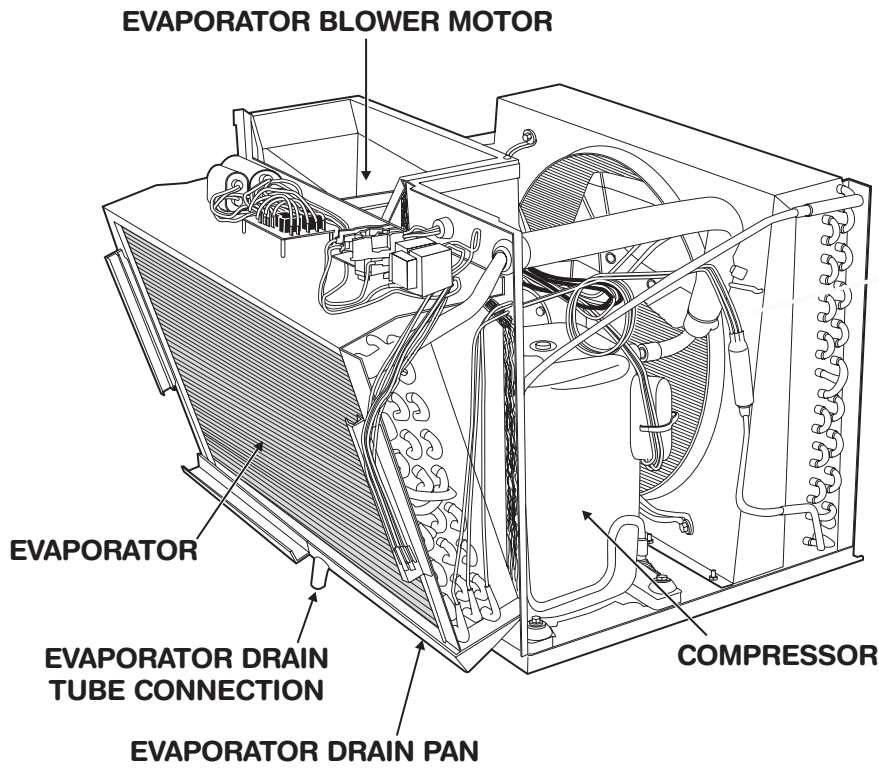

Figure 3-3
9. Disconnect the drain tube from the evaporator drain pan (Figure 3-3).